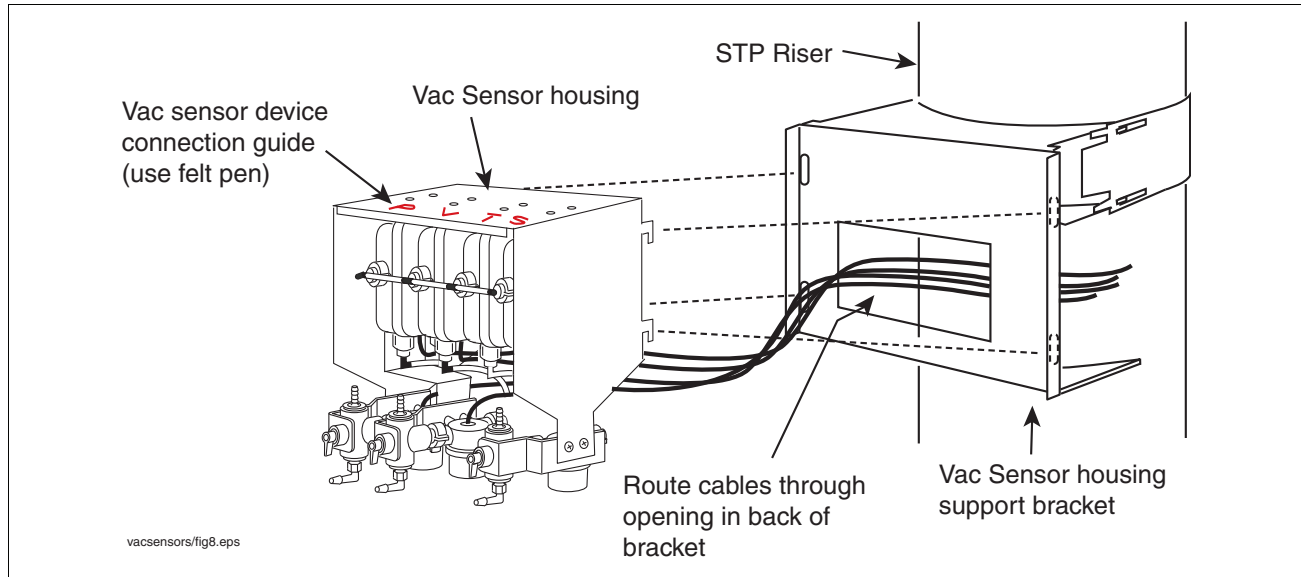

Figure 9. Attaching Vac Sensor housing to support bracket
2. Use a felt pen and write on the top of the Vac Sensor housing to what device each of the Vac Sensors below will be attached (see Figure 9). For example, P = product line, S = containment sump interstice, V = vapor line, and T = tank interstice. NOTE: If the mark you wrote on the housing over the first Vac Sensor was 'P', locate the cable ends of this Vac Sensor/Vac Float pair, tape them together about every foot along their length and at their ends, and tag the end of this cable pair 'P' or 'Product Line Vac Sensor'. Repeat this taping and tagging for each of the Vac Sensor/Vac Float pairs. The Vac Sensor marked 'T' will only have one cable, so tag the end of this cable 'T' for 'Tank Vac Sensor'.
Route all of the cables through the opening in the mounting bracket and attach the Vac Sensor housing to the bracket by pushing the four hooks on the rear of the housing into the four slots in the bracket (see Figure 9)